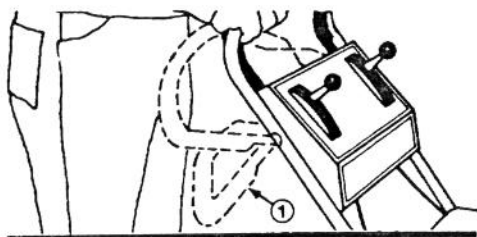

Figure 9
1. To engage blade, move control bar down until it stops (Fig. 9), then move control bar back up to handle. Blade is now fully engaged.
2. To engage blade, move control bar down until it stops (Fig. 9), then move control bar